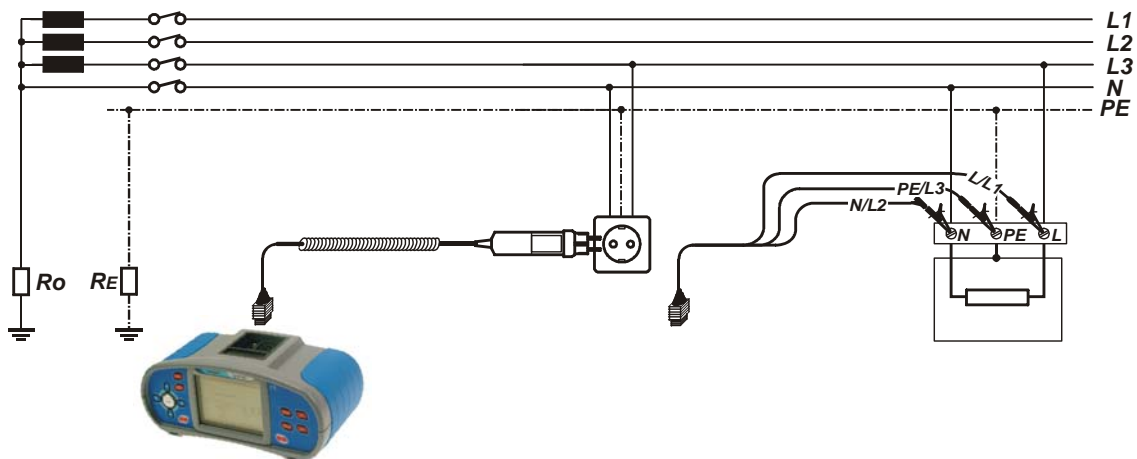

Figure 5.19: Connection of plug cable and universal test cable
- ❑ **Connect** test leads to the tested object (see figure 5.19).